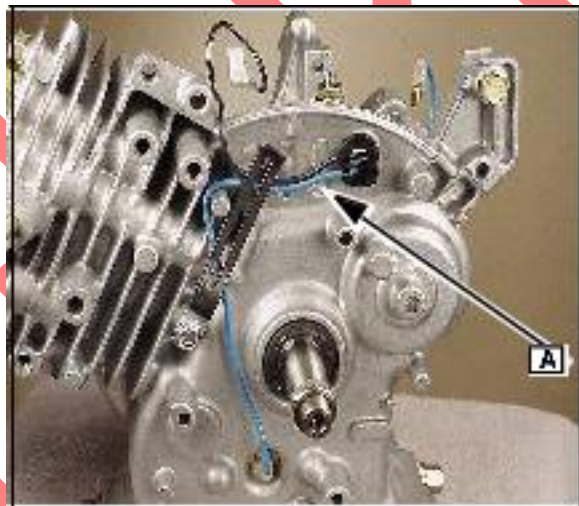

Fig. 1
1. Secure wire harness ([A] Fig. 1) as shown.